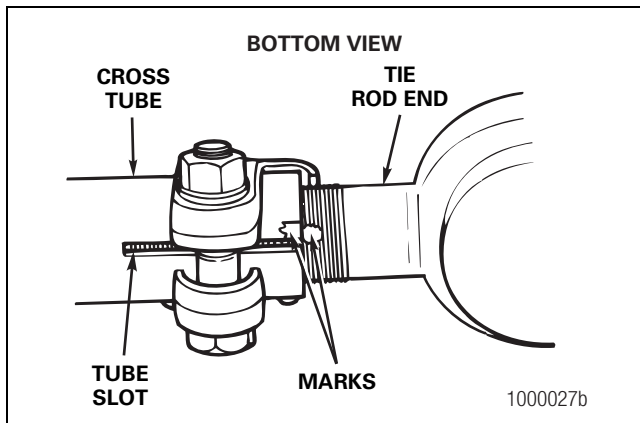

Figure 4.12
- A. Mark the position of each tie rod end in the cross tube. Count and record the number of threads that appear outside of the cross tube. Figure 4.12.